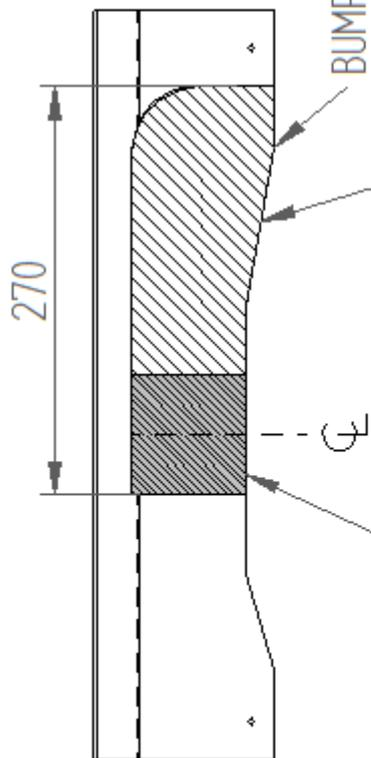

FIG.1
5. Drill out the spot weld shown in FIG.1 and replace with Item **M** and **W**.